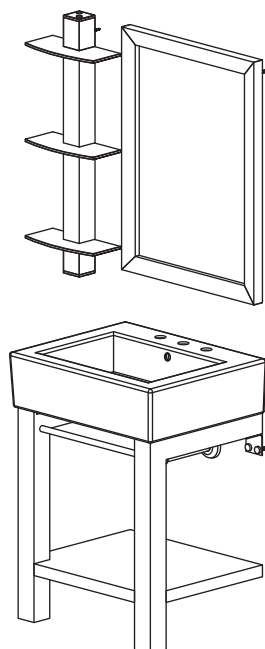

Figure 14
- Refer to Figure 14 for finish unit.